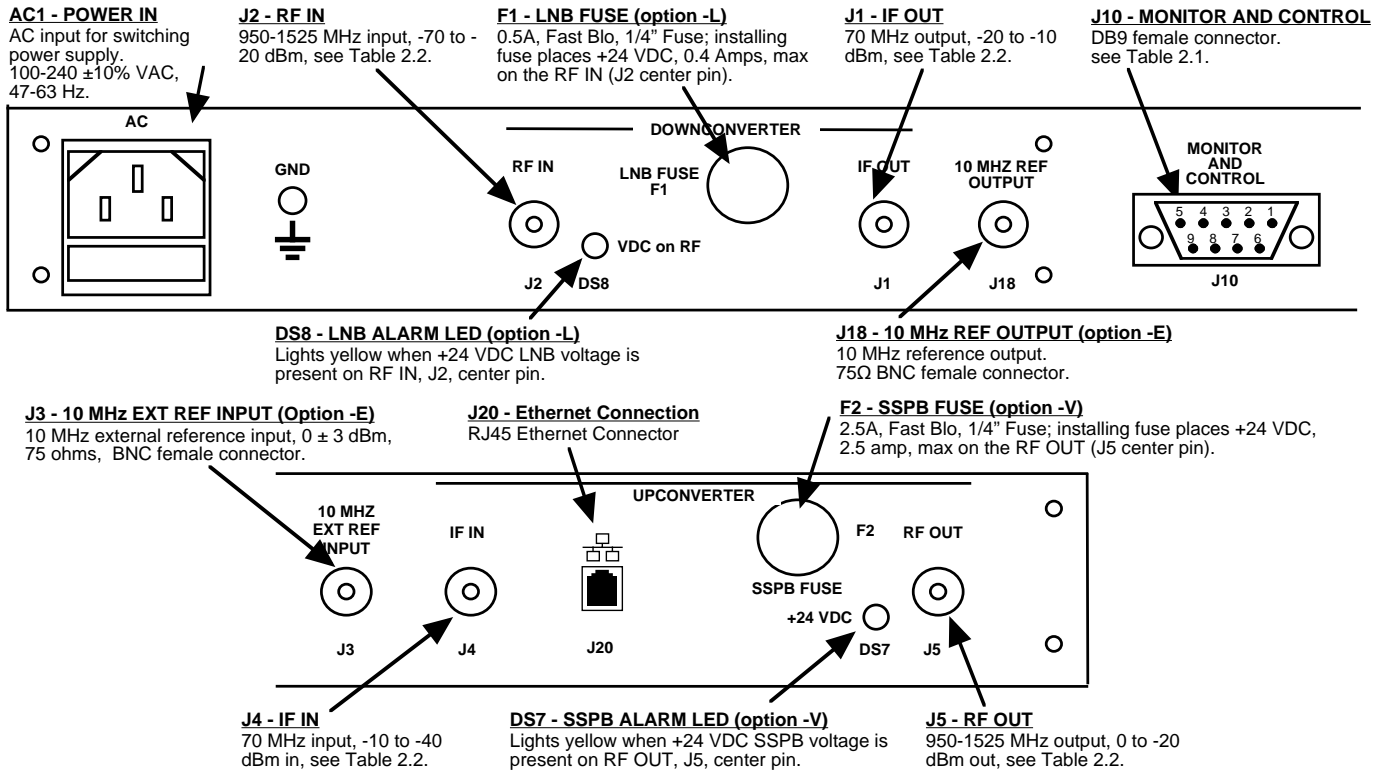

Figure 2.1 Model 2017-03 Rear Panel I/O's
- 1.) Connect a -40 dBm to -10 dBm signal to IF In, J4 (Figure 2.1).
- 1.) Connect a -70 dBm to -20 dBm signal to RF In, J2 (Figure 2.1).